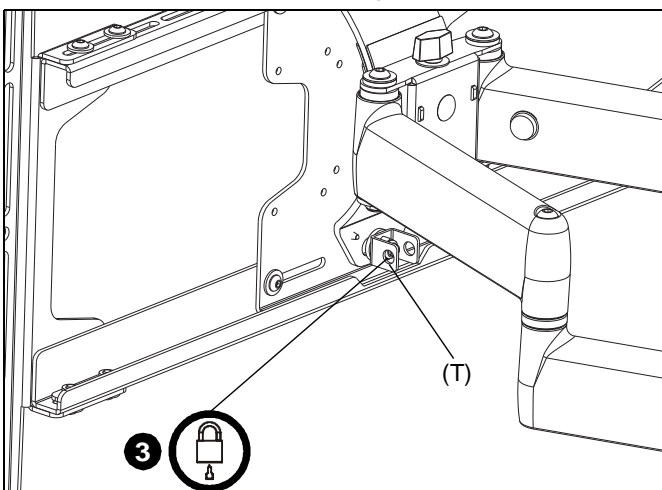

Figure 11
3. (Optional) Install padlock through locking bracket (T). (See Figure 11)